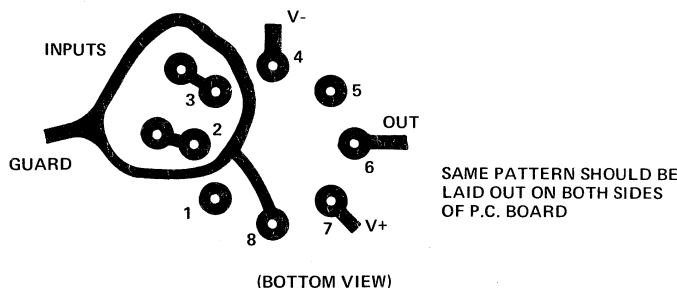
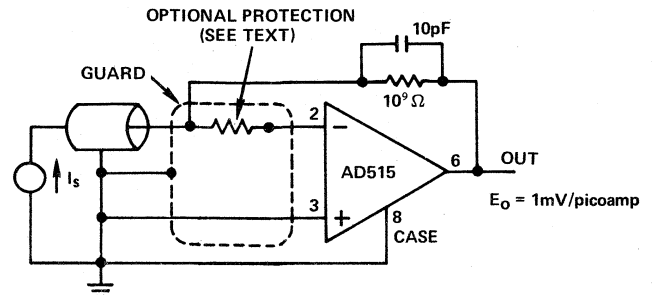

Figure 1. Board Layout for Guarding Inputs with Guarded TO-99 Package
Figure 2. Picoampere Current-to-Voltage Converter Inverting Configuration
2. The use of guarding techniques is essential to realizing the capability of the ultra-low input currents of the AD515. Guarding is achieved by applying a low impedance bootstrap potential to the outside of the insulation material surrounding the high impedance signal line. This bootstrap potential is held at the same level as that of the high impedance line; therefore, there is no voltage drop across the insulation, and hence, no leakage. The guard will also act as a shield to reduce noise pickup and serves an additional function of reducing the effective capacitance to the input line. The case of the AD515 is brought out separately to pin 8 so that the case can also be connected to the guard potential. This technique virtually eliminates potential leakage paths across the package insulation, provides a noise shield for the sensitive circuitry, and reduces common-mode input capacitance to about 0.2pF. Figure 1 shows a proper printed circuit board layout for input guarding and connecting the case guard. Figures 2 and 3 show guarding connections for typical inverting and non-inverting applications. If pin 8 is not used for guarding, it should be connected to ground or a power supply to reduce noise.
3. Printed circuit board layout and construction is critical for achieving the ultimate in low leakage performance that the AD515 can deliver. The best performance will be realized by using a teflon IC socket for the AD515; but at least a teflon stand-off should be used for the high-impedance lead. If this is not feasible, the input guarding scheme shown in Figure 1 will minimize leakage as much as possible; the guarding should be applied to both sides of the board. The guard ring is connected to a low impedance potential at the same level as the inputs. High impedance signal lines should not be extended for any unnecessary length on a printed circuit; to minimize noise and leakage, they must be carried in rigid, shielded cables.
Many instrumentation situations, such as flame detectors in gas chromatographs, involve measurement of low level currents from high-voltage sources. In such applications, a sensor fault condition may apply a very high potential to the input of the current-to-voltage converting amplifier. This possibility necessitates some form of input protection. Many electrometer type devices, especially CMOS designs, can require elaborate zener protection schemes which often compromise overall performance. The AD515 requires input protection only if the source is not current-limited, and as such is similar to many JFET-input designs. The failure mode would be overheating from excess current rather than voltage breakdown. If the source is not current-limited, all that is required is a resistor in series with the affected input terminal so that the maximum overload current is 0.5mA (for example, 200k Ω for a 100 volt overload). This simple scheme will cause no significant reduction in performance and give complete overload protection. Figures 2 and 3 show proper connections.
There are two ways to circumvent this problem. For inverting signals or low-level current measurements, the signal is carried on the line connected to the inverting input and shielded (guarded) by the ground line as shown in Figure 2. Since the signal is always at virtual ground, no voltage change is required and no capacitances are charged. In many circumstances, this will de-stabilize the circuit; if so, capacitance from output to inverting input will stabilize the circuit.